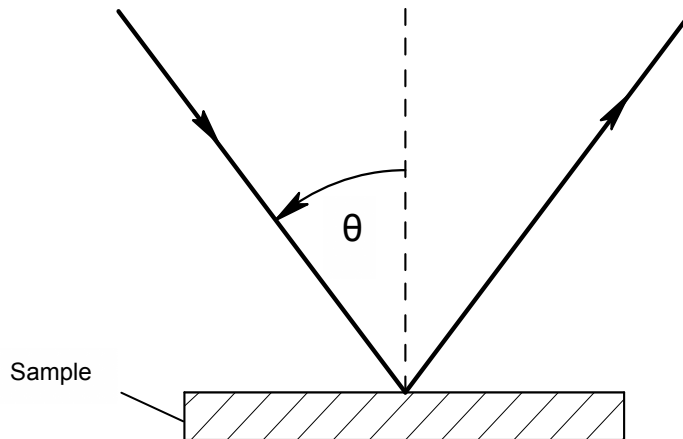
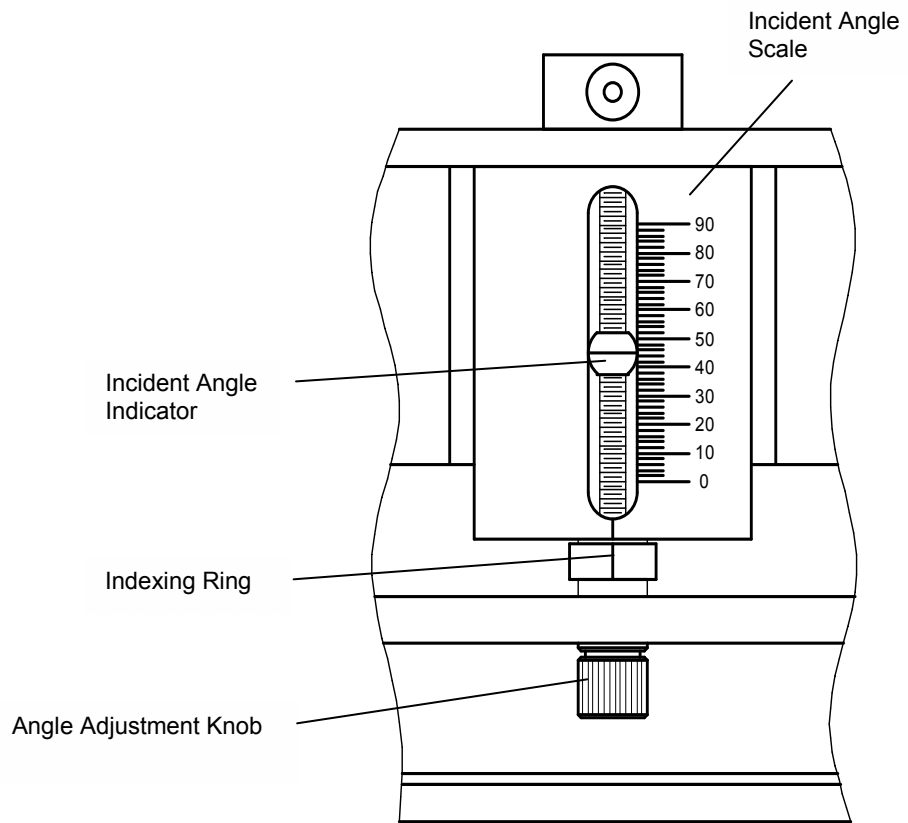

Figure 5 • Seagull™ (Top View)
Figure 6 • Seagull™ (Top View)
- The incident angle  $\theta$  (Figure 5) is read from the scale on top of the Seagull™ (Figure 6).
- Rotate the angle adjustment knob (Figure 6) until the pointer lines up with the desired angle on the scale (the scale is divided into 2° increments).
- For fine tuning, use the marks on the indexing ring (Figure 6). Rotating the angle adjustment knob from a long mark to a short mark will increase/ decrease the angle of incidence 0.5°. Further rotation to a long mark will increase/decrease the angle another 0.5°.